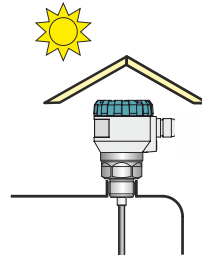

Fig. 7: A shielding cover protecting against direct sunlight
- The level meter must not be installed in places exposed to direct **sunlight** and must be protected from the weather influences. Even so installation is in exposed places to direct sunlight a **shielding cover** is necessary to be fitted over the level meter (see Fig. 7).